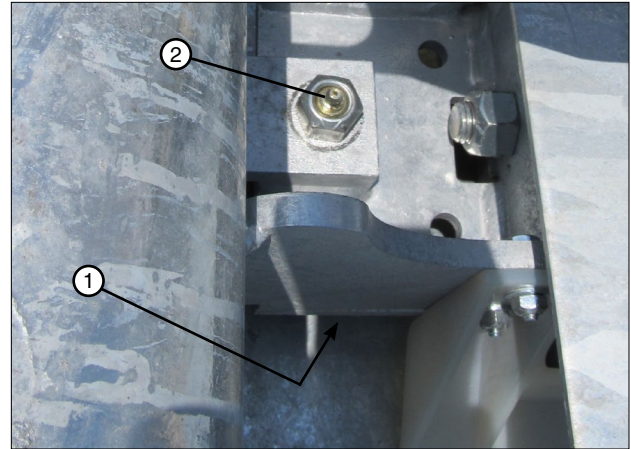

Figure 35-1 1. Guide Roller
1. From on top the extended cradle, use a grease gun to lubricate the grease fitting on each guide roller. See Figure 35-1.